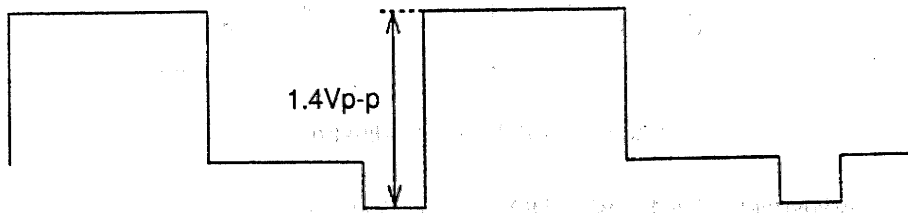

Figure 3-1-1 Green Signal Level
③ Contrast Level Adjustment (VR702, VR703)
- (1) Input an NTSC color bars signal.
- (2) Turn VR703 fully counterclockwise.
- (3) Adjust VR702 until the emitter output of Q715 is $1.4 \pm 0.1/0$ [Vp-p] as shown in Figure 3-1-1.